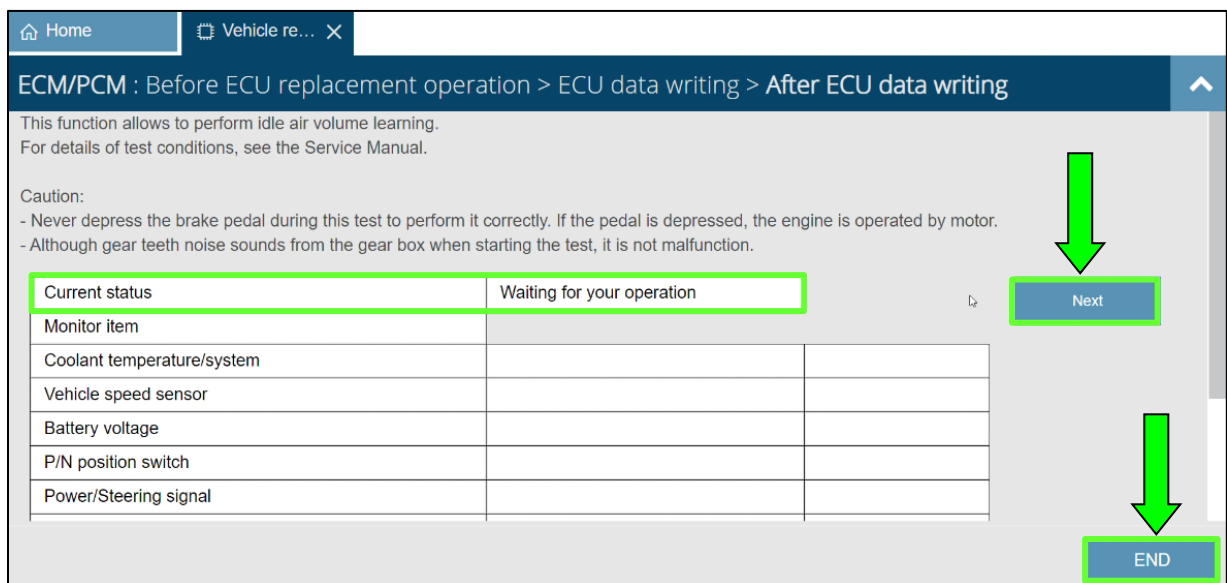

Figure 26
28. When the screen (as shown in Figure 26) displays Idle Air Volume Learning (IAVL), press and hold the push button ignition switch for 5 seconds to turn the ignition OFF.
29. Follow the on-screen instructions to perform IAVL (Figure 26).